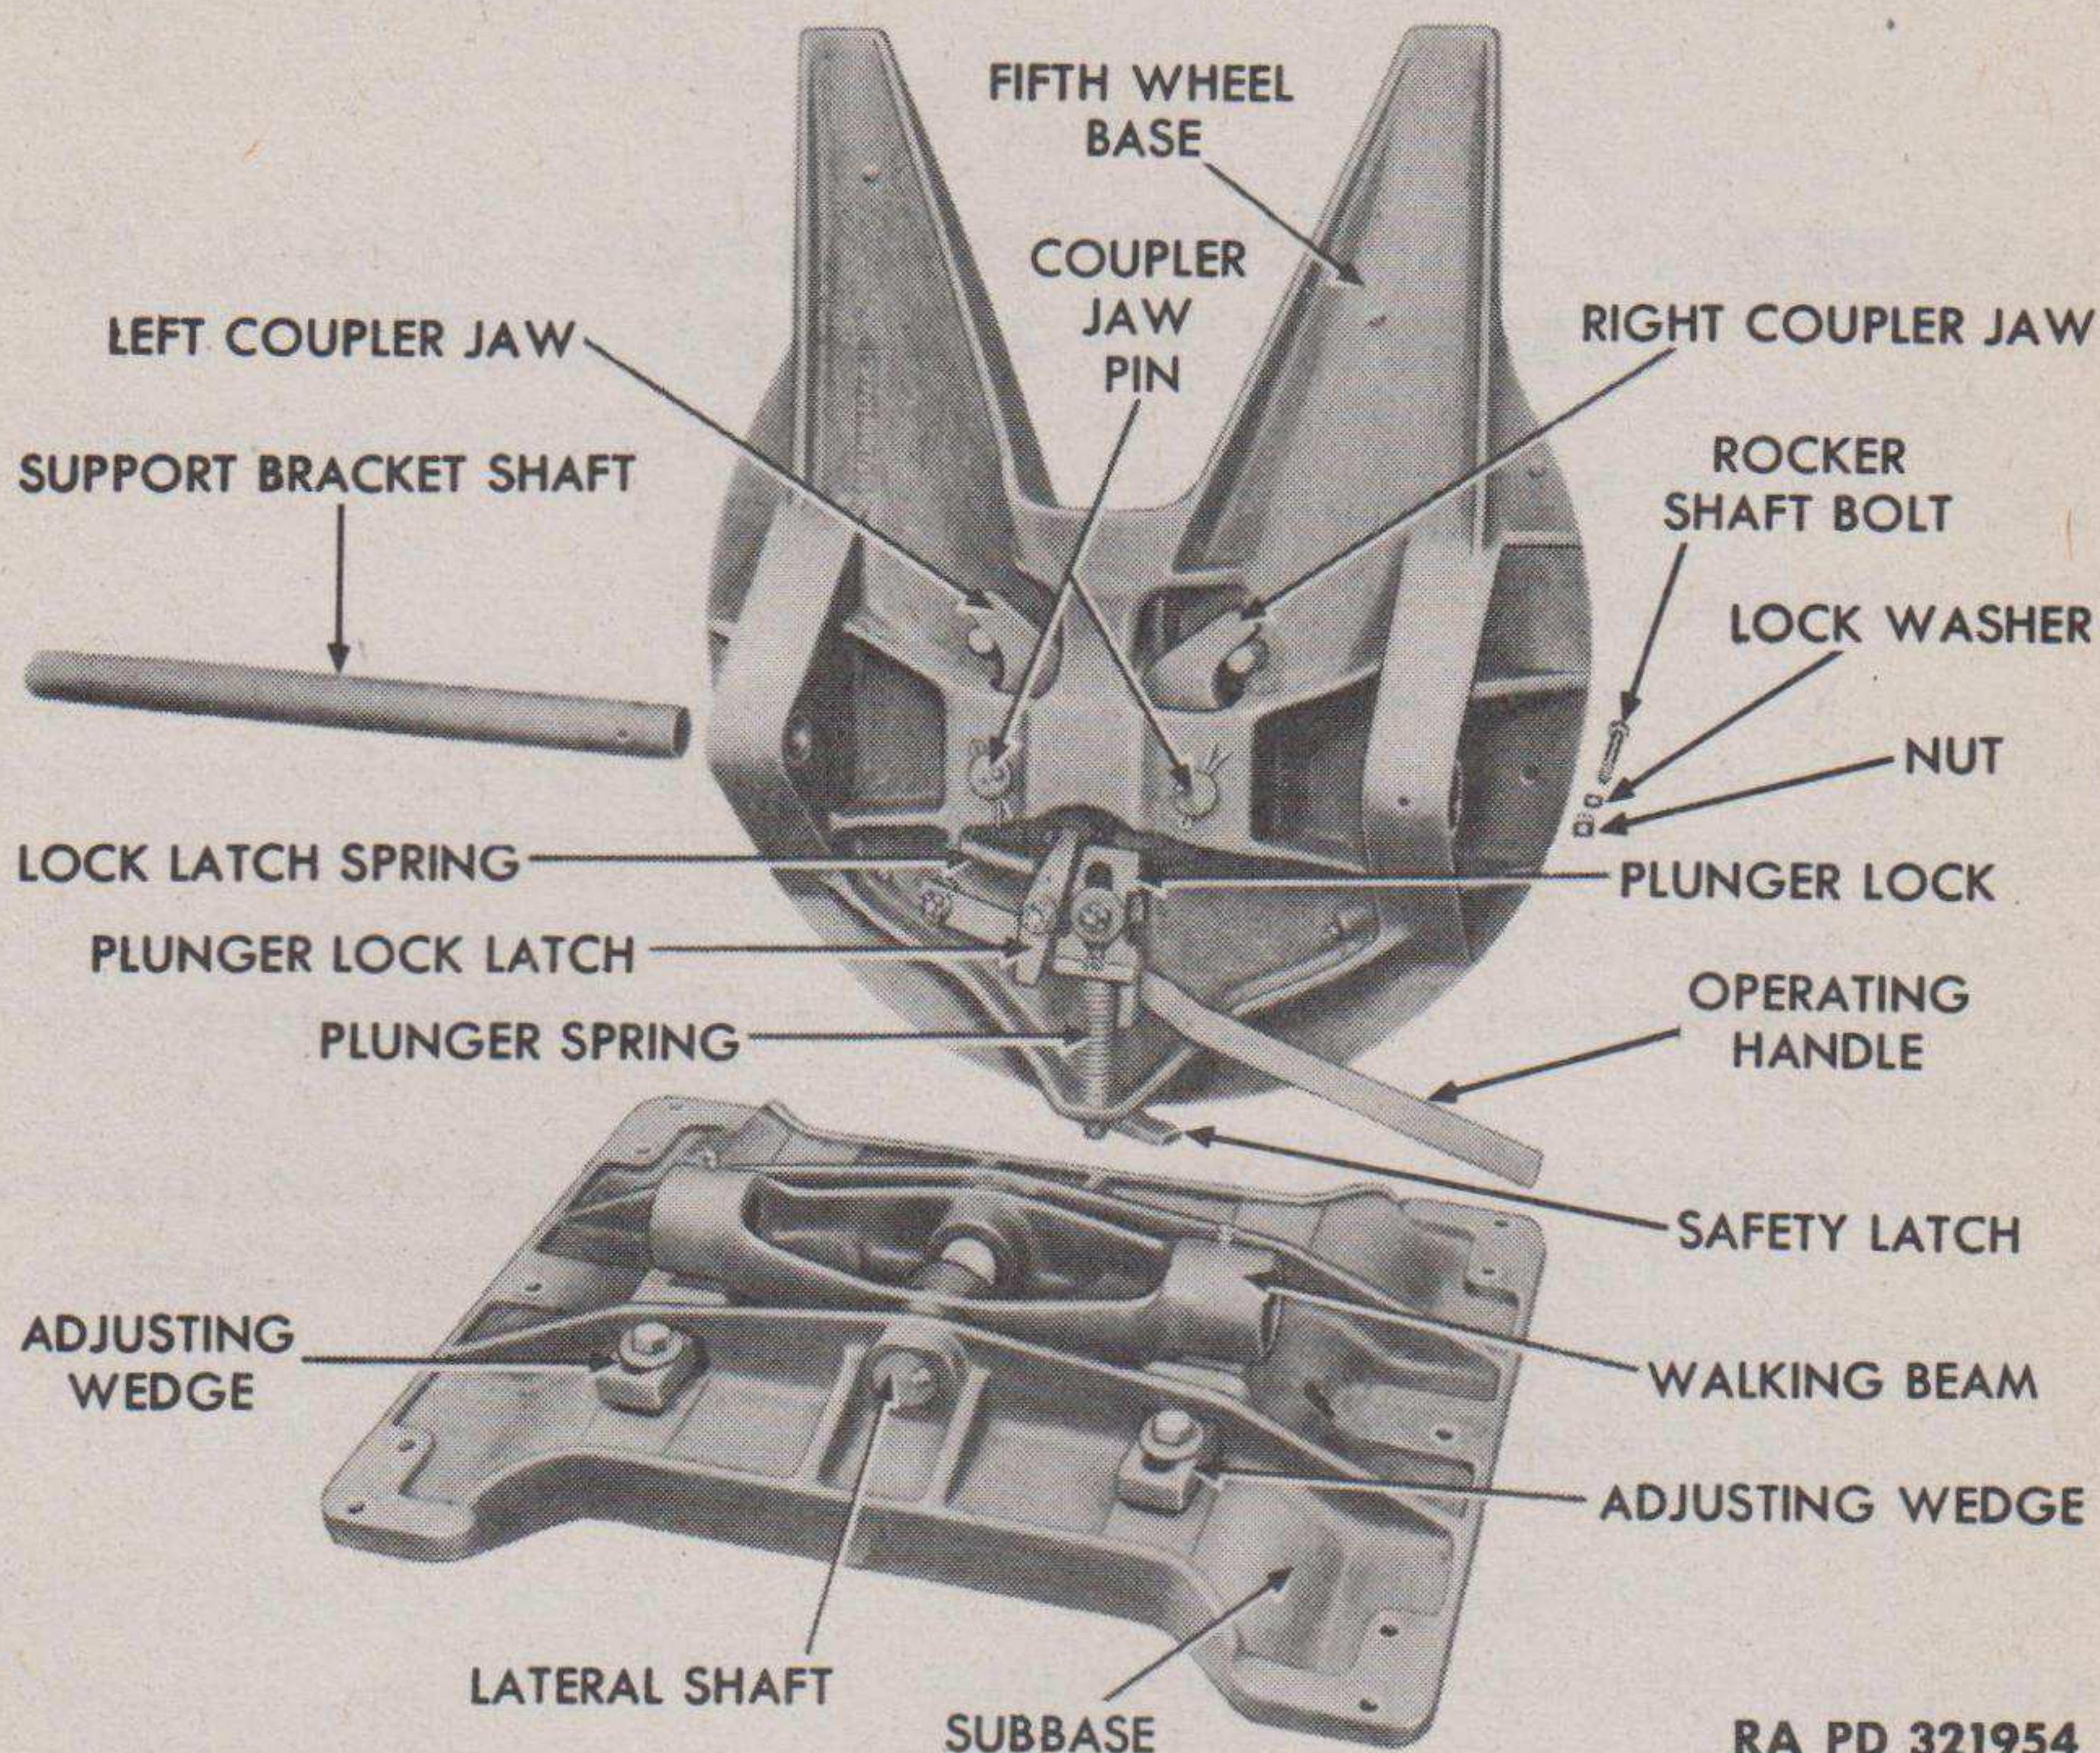

Figure 91 – Fifth Wheel Base and Sub-base Assemblies
a. **Description** (fig. 91). A fifth wheel, composed of a base and a sub-base assembly, is mounted on the frame at the rear of the vehicle. Two coupler jaws are held in position beneath the base by coupler jaw pins. A plunger lock assembly, consisting of a plunger and plunger spring, is actuated by an operating handle and provides the means of placing coupler jaws into receiving position for a coupling pin on the vehicle to be towed. A support bracket shaft extends through the base assembly and a walking beam, which rests on leveling springs and is attached to the sub-base by a lateral shaft. Adjusting wedges extending into the sub-base openings and under each side of the walking beam are held in position by wedge bolts.
b. **Remove Base Assembly (fig. 91).** Remove nut, lock washer, and bolt securing support bracket shaft to fifth wheel base. Tap out support bracket shaft and remove shims. Lift fifth wheel base assembly from seat on sub-base.
(1) **REMOVE PLUNGER LOCK LATCH** (fig. 91). Release plunger lock latch spring. Remove cotter pin, nut, and flat washer attaching latch to base. Lift out plunger lock latch and spring.
(2) **REMOVE PLUNGER LOCK** (fig. 91). Remove cotter pin, nut, and flat washer from fifth wheel plunger stud. Lift out plunger lock and spring.
(3) **REMOVE COUPLER JAWS** (fig. 91). Remove cotter pins and tap out coupler jaw pins. Lift out pin washers and coupler jaws.
(4) **REMOVE OPERATING HANDLE** (fig. 91). Remove cotter pin, nut, and flat washer attaching operating handle to base stud. Lift off operating handle.
(5) **REMOVE SAFETY LATCH** (fig. 91). Back off safety latch screw, and remove plunger safety latch.
(1) **INSTALL COUPLER JAWS** (fig. 91). Place coupler jaws and flat washers in position. Tap coupler jaw pins through base and jaws. Install cotter pins through openings in jaw pins.
(2) **INSTALL PLUNGER LOCK** (fig. 91). Slide plunger spring on plunger lock. Insert plunger lock into cutaway opening between coupler jaws. Secure with flat washer, nut, and cotter pin.
(3) **INSTALL PLUNGER LOCK LATCH** (fig. 91). Position plunger lock latch on base stud. Install flat washer, nut, and cotter pin. Attach plunger lock latch spring to base.
(4) **INSTALL OPERATING HANDLE** (fig. 91). Position operating handle over end of plunger spring and on fifth wheel base stud. Secure with flat washer, nut, and cotter pin.
(5) **INSTALL SAFETY LATCH** (fig. 91). Place safety latch in position over end of plunger. Attach latch to base with safety latch screw.
(1) **REMOVE ADJUSTING WEDGES** (fig. 91). Remove nuts, lock washers, bolts, and flat washers attaching wedges to sub-base. Tap out adjusting wedges.
(2) **REMOVE LATERAL SHAFT** (fig. 91). Press down on walking beam with an arbor press. Tap out lateral shaft.
(3) **REMOVE WALKING BEAM** (fig. 91). Release pressure on arbor press, and lift off walking beam and leveling springs.
(1) **INSTALL WALKING BEAM** (fig. 91). Place sub-base in an arbor press. Place leveling springs in position on sub-base. Press walking beam over leveling springs until shaft openings are in line.
(2) **INSTALL LATERAL SHAFT** (fig. 91). Tap lateral shaft through sub-base and walking beam. Cut-out section on shaft must be on top. Remove assembly from arbor press.
(3) **INSTALL ADJUSTING WEDGES** (fig. 91). Position wedges through openings in sub-base. Install wedge bolts, flat washers, nuts, and cotter pins.
a. Install Base Assembly (fig. 91). Place base assembly in position between walking beam and over sub-base assembly. Tap support bracket shaft through base and walking beam. Install bolt, lock washer, and nut through end of shaft.